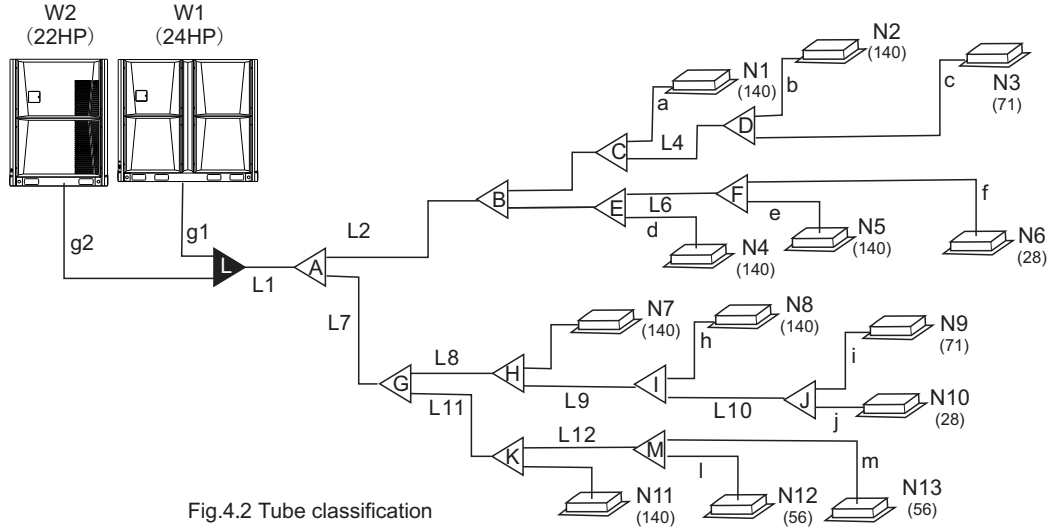

Fig.4.2 Tube classification
- E.g.: The capacity of downstream indoor units after L₂ in Fig.4.2 is 140×4+28+71=659, so the gas tube and liquid tube of L₂ are respectively: Φ28.6 and Φ15.9.